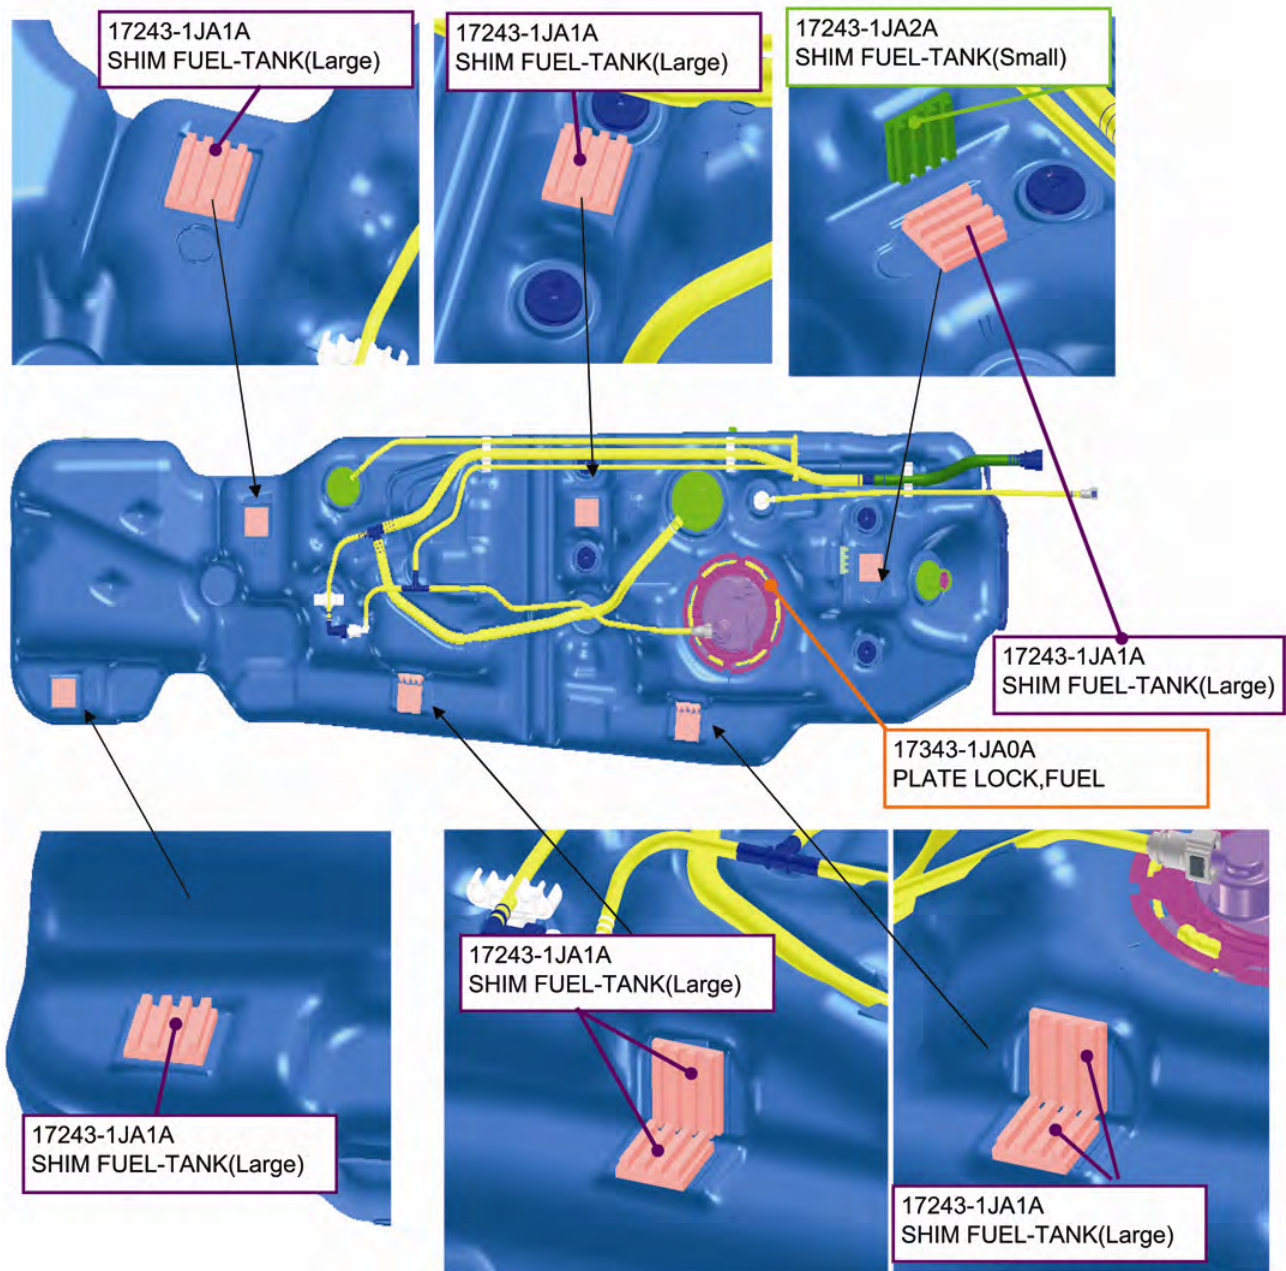

Fig. 6 (composite)
7. Install new Fuel Tank Shims as shown in Figure 6 below